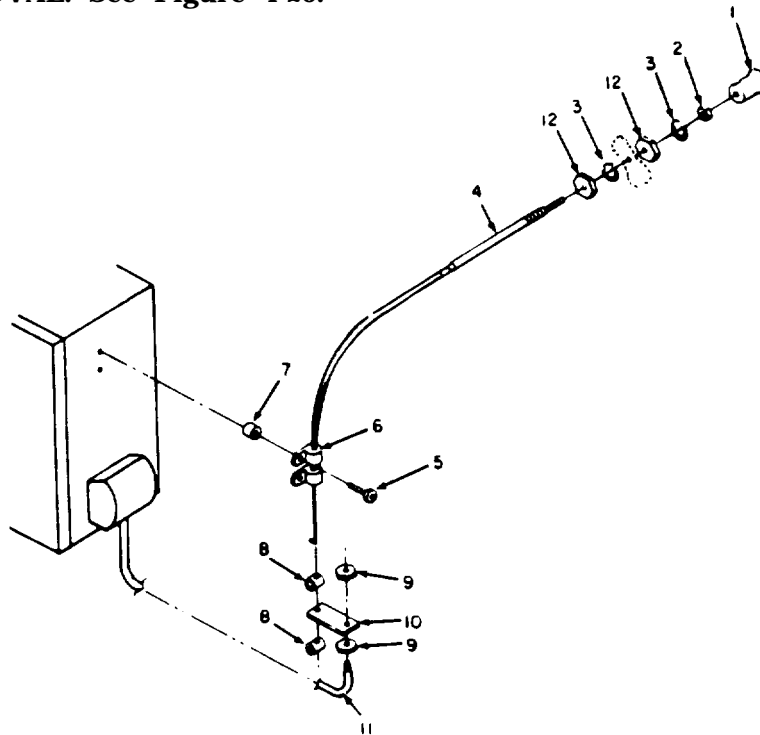

Figure 4-29. Circuit Breaker Reset Control.
- a. **REMOVAL.** See Figure 4-29.